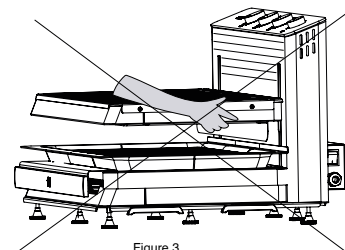
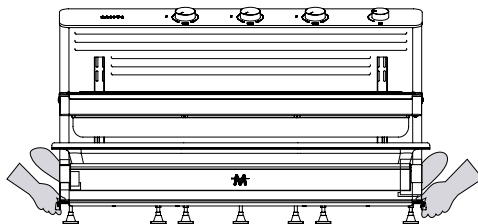

Figure 3
Figure 4
- Never carry the product by the adjustable cooking surface (Figure 3). Always carry the device with two people using the carrying handles located on both sides of the bottom metal base (Figure 4).